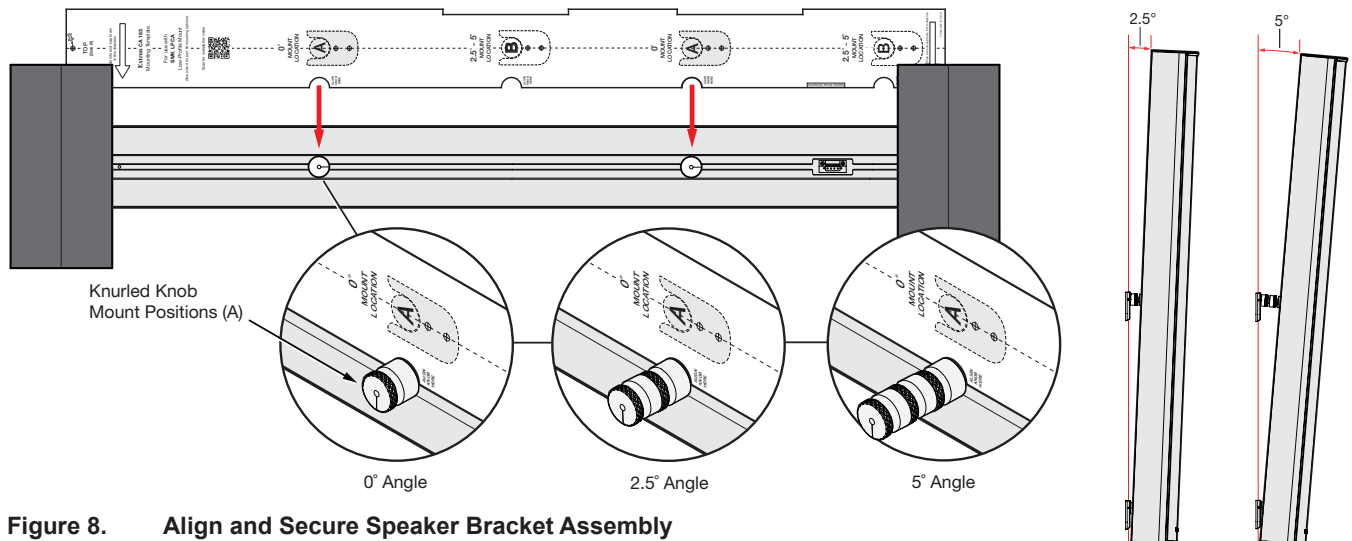

Figure 8. Align and Secure Speaker Bracket Assembly
6. To add tilt, screw one or both 2.5” Extension Knobs onto the desired Primary Knob (see figure 8).